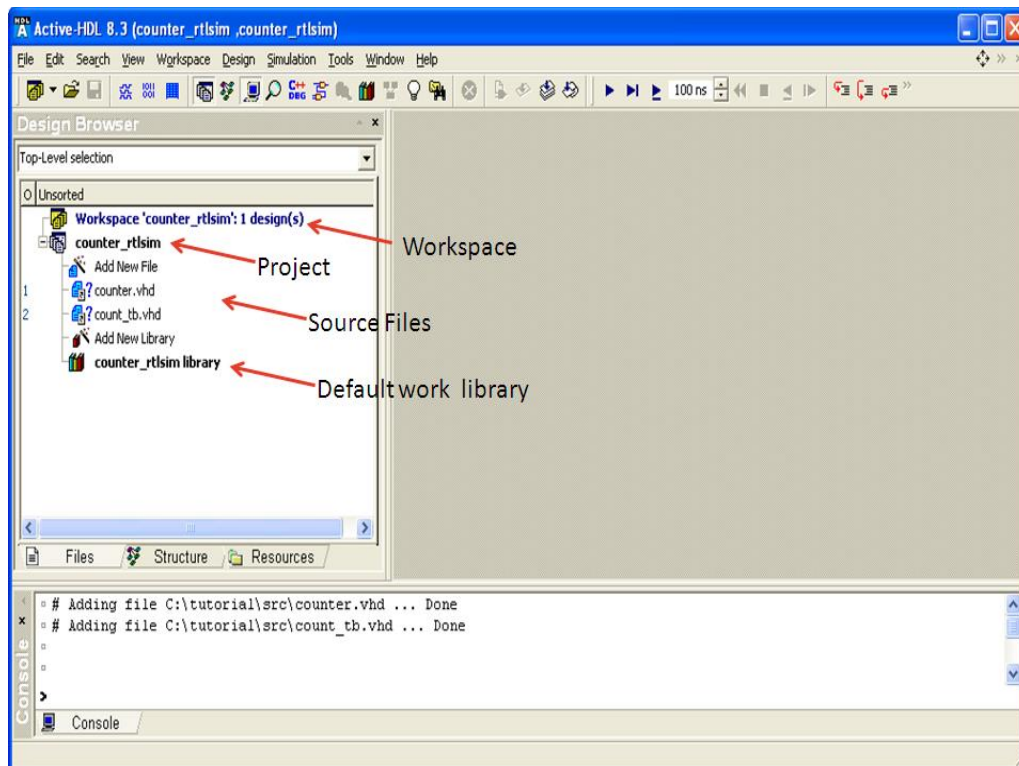

Figure 10-7: Active-HDL Simulator Interface
5. The Active-HDL simulator is launched now and the workspace, simulation project, work library are automatically created as per the simulation wizard inputs. The simulation source files also added under simulation project. See Figure 10-7.